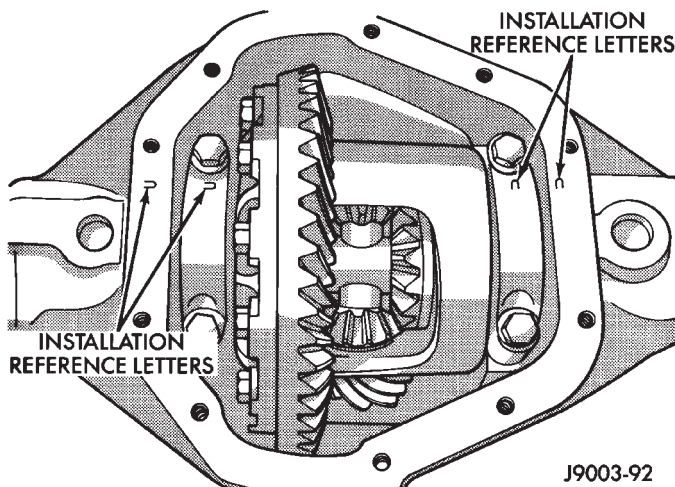

Fig. 10 Bearing Cap Identification
(1) Note the installation reference letters stamped on the bearing caps and housing machined sealing surface (Fig. 10).